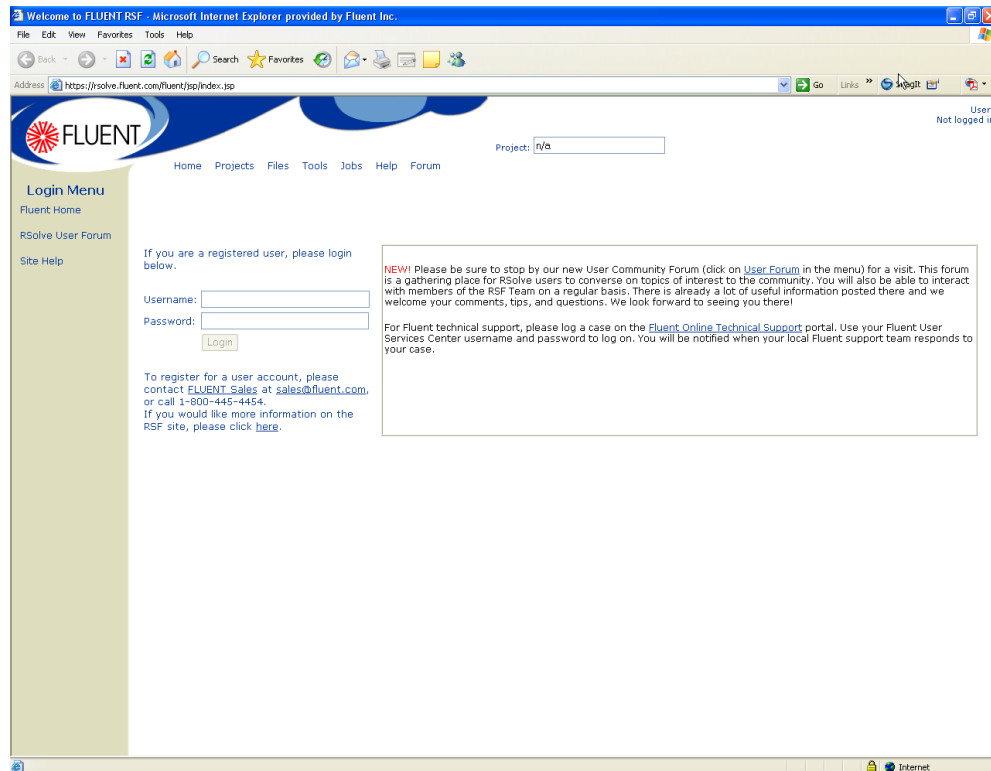

Figure 27.11.13: The RSolve Home Page on the User's Services Web Site
- (a) Select **Save RSF username and password** if you don't want to have to retype it in future sessions. If you don't yet have a RSF username and password, click the **Create or Manage RSF Account...** button to open the RSF Home page on the User's Services web site (Figure 27.11.13).